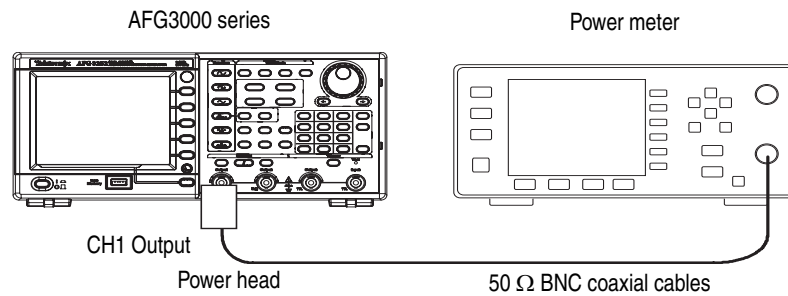

Figure 5-3: Flatness adjustment
1. Connect the arbitrary/function generator to the power meter with a power head as shown in Figure 5-3.